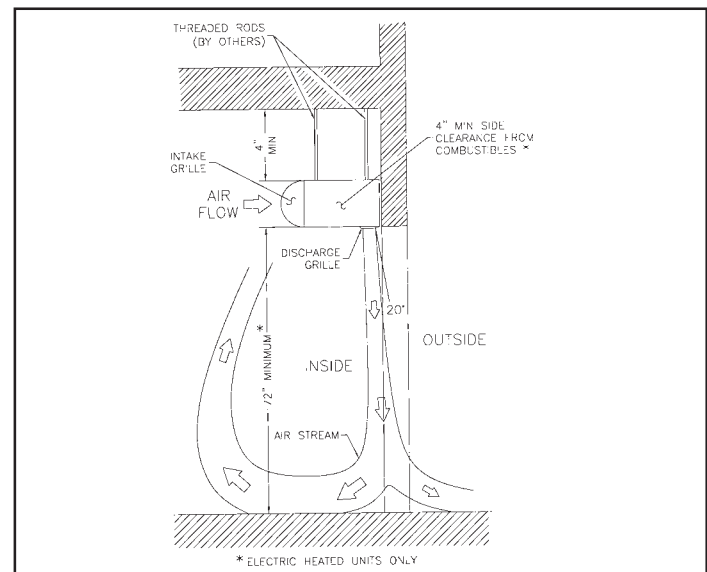

FIGURE 2 - Suspension Mount without Back Adapter
A. **NO BACK ADAPTOR: Figure 2**
1. Suspend the AURA Series air door on the inside of the building with the **louvered discharge grille** facing the door opening. **See Figure 2.**
2. Mount and level the air door by connecting four (4) 5/16-18 threaded rods or other suitable hardware (supplied by others) to the (4) 5/16-18 threaded inserts located on top of the unit.